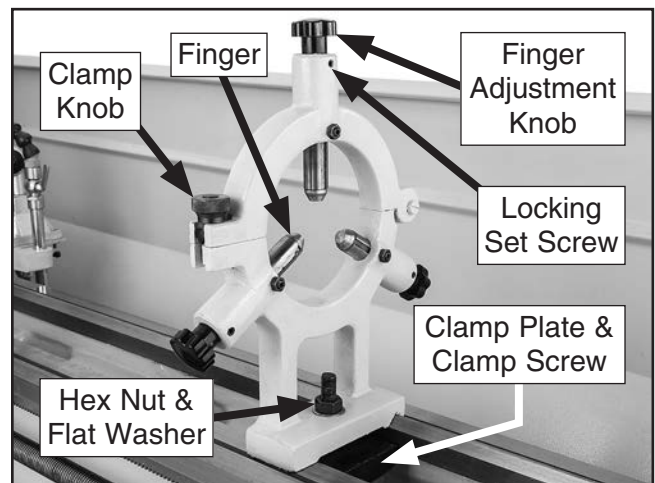

Figure 46. Steady rest components.
2. Thoroughly clean all mating surfaces, then place steady rest base on bedways and secure to clamp plate with hex nut, flat washer, and clamp screw (see **Figure 46**).
3. Loosen three locking set screws so finger positions can be adjusted (see **Figure 46**).